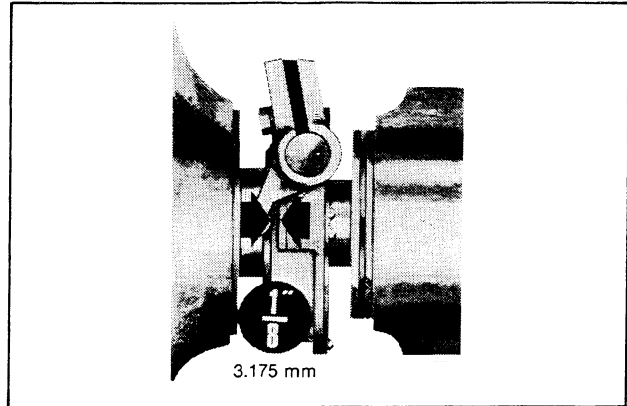

Figure 10:
10. Check pedal free travel as follows before installing rod clevis pin. Rotate clutch outer arm until the clutch release yoke fingers contact the release bearing thrust pads (a slight resistance should be felt). Hold and mark the end of the clutch "cross shaft" in this position, while observing the mark on the end of the cross shaft rotate the shaft back (away from the release bearing) $\frac{1}{8}$ inch (3.175 mm) from the marked position. Screw clutch rod clevis "in" or "out" so that the pin will go through clevis and clutch release arm freely in this position. (see Fig. 10).